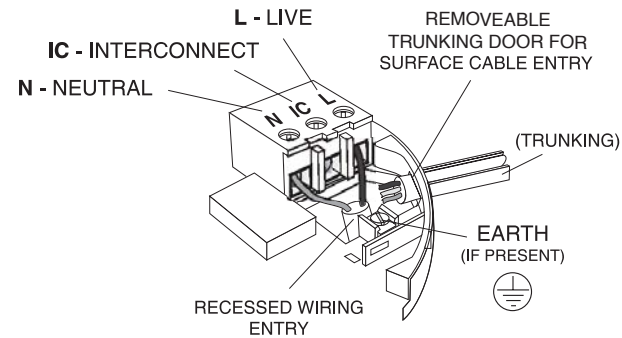

Figure 3
5. If the mains wires are recessed (coming through a hole in the ceiling), bring the wires to the terminal block through the rear hole in the mounting plate as shown in *Figure 3*.
(a) position the mounting plate so the cable trunking is as shown in *Figure 3*.
6. The house wiring must then be connected to the terminal block on the Ei168RC **RadioLINK** Base as follows (see *Figure 3*):